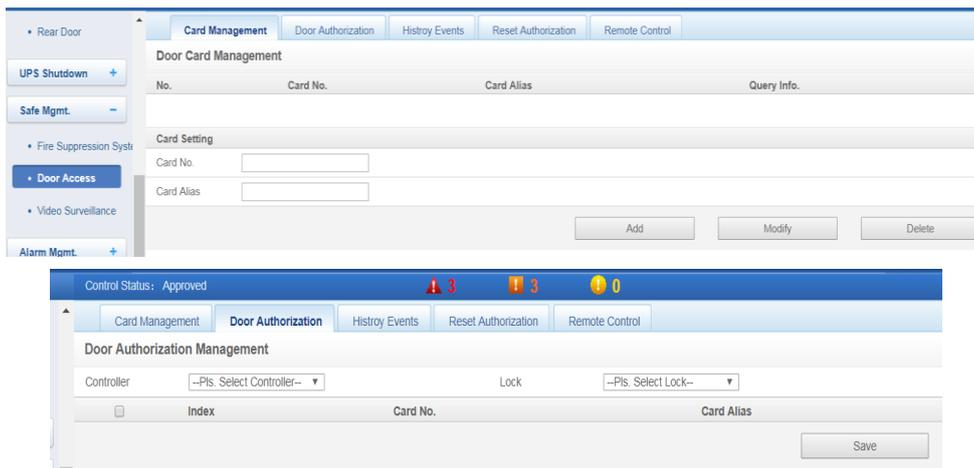

Figure 4-7 Authorization method of access control card
2) When using an unauthorized ID card, the red LED of the intelligent lock flashes, the local LCD will prompt that this card is invalid; The commissioning personnel need to log in the SmartCabinet via web page, click “System Homepage” -> “Security Management” -> “Access control management” -> “History query” to find the card-slashing log, and click the card number to authorize to repeat the authorizing procedures in Figure 4-7, as shown in Figure 4-8.